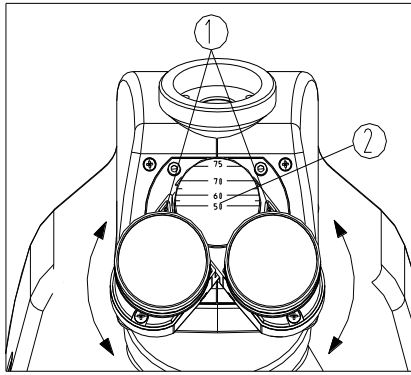

Fig. 13
1. When observing with two eyes, hold the base of the eyetubes and rotate them around the axis until there is only one field of view. "0" mark ① on the eyetube base points to the scale ② of interpupillary indication, means the value of interpupillary distance (see Fig. 13).